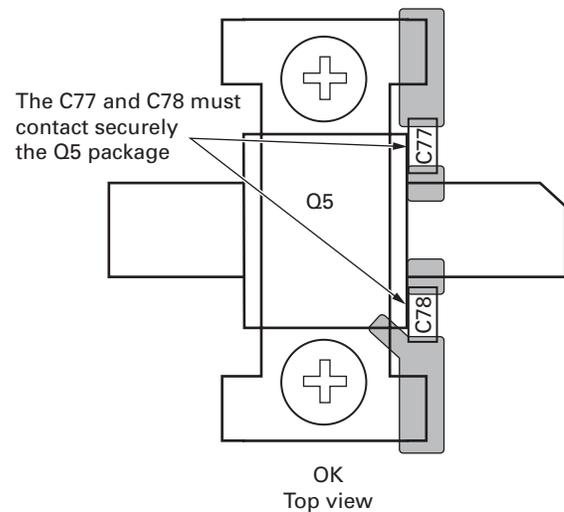

Fig. 9-4
3. To solder the source side of C78 (FET Q5 source side), solder the earth springs until they are fully covered. (Refer to Fig. 9-4.)